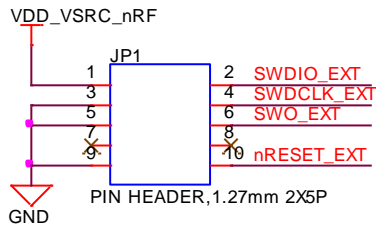

Figure 7: BL654 development board schematic
**Note:** Reference on the BL654 development board schematic (Figure 7) shows the DVK development schematic wiring only for the JTAG connector and the BL654 module JTAG pins.
JTAG is require because Nordic SDK applications can only be loaded using the JTAG (*smartBASIC* firmware can be loaded using JTAG as well as over the UART). We recommend that you use JTAG (2-wire SWD interface) to handle future BL654 module firmware upgrades. You **must** wire out the JTAG (2-wire SWD interface) on your host design (see Figure 7, where the following four lines should be wired out – SWDIO, SWDCLK, GND and VCC). *smartBASIC* firmware upgrades can still be performed over the BL654 UART interface, but this is slower than using the BL654 JTAG (2-wire SWD interface) – (60 seconds using UART vs. 10 seconds when using JTAG).
Laird recommends you use JTAG (2-wire interface) to handle future BL654 module firmware upgrades. You MUST wire out the JTAG (2-wire interface) on your host design (see Figure 7, where four lines should be wired out, namely SWDIO, SWDCLK, GND and VCC). Firmware upgrades can still be performed over the BL654 UART interface, but this is slower (60 seconds using UART vs. 10 seconds when using JTAG) than using the BL654 JTAG (2-wire interface).